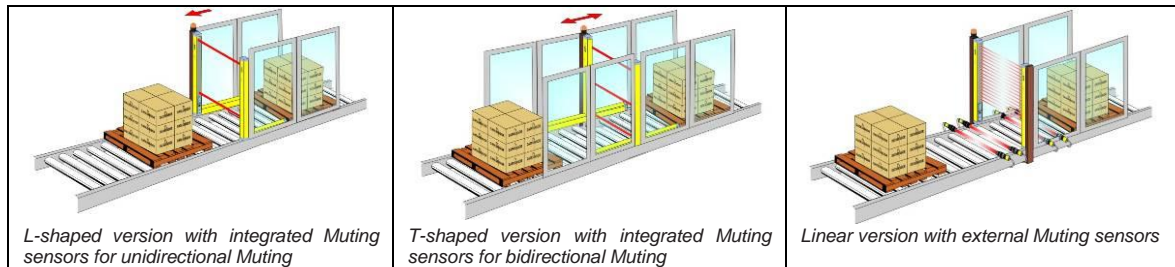

Figure 37
- The Muting function, excludes the light curtain during functioning, maintaining active the OSSD outputs, according to particular operating requirements (Figure 37).